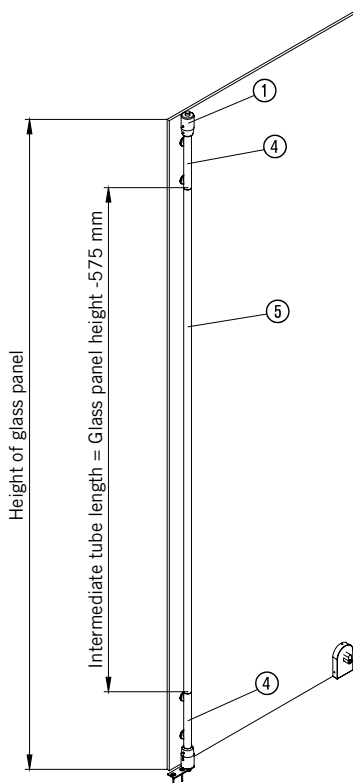

Fig. 4a
4. Mounting the pivoting door panel (Fig. 4a+b)
- a) Preparation: Install the top bearing sleeve (1) (pre-assembled on track-rail (2)), and floor pivot (3) or floor spring (BTS) as per instructions.
- b) Slide bottom pivot sleeve (A) over bottom pivot rod (3) to full limit of travel. In so doing, ensure that the slot engages with the set screws. Secure using the set screws (4 mm Allan key).
- c) Slide top pivot sleeve (B) over top pivot rod. Ensure compliance with the correct mounting position: the flattened side of the sleeve and the threaded bores for the single-point fixings face the glass.
- e) Bolt pivot rods (4) with intermediate tube (5) and bottom pivot sleeve onto the glass panel.
- g) Slide the top pivot sleeve up in accordance with diagram (B) and secure with set screws (4 mm Allan key).